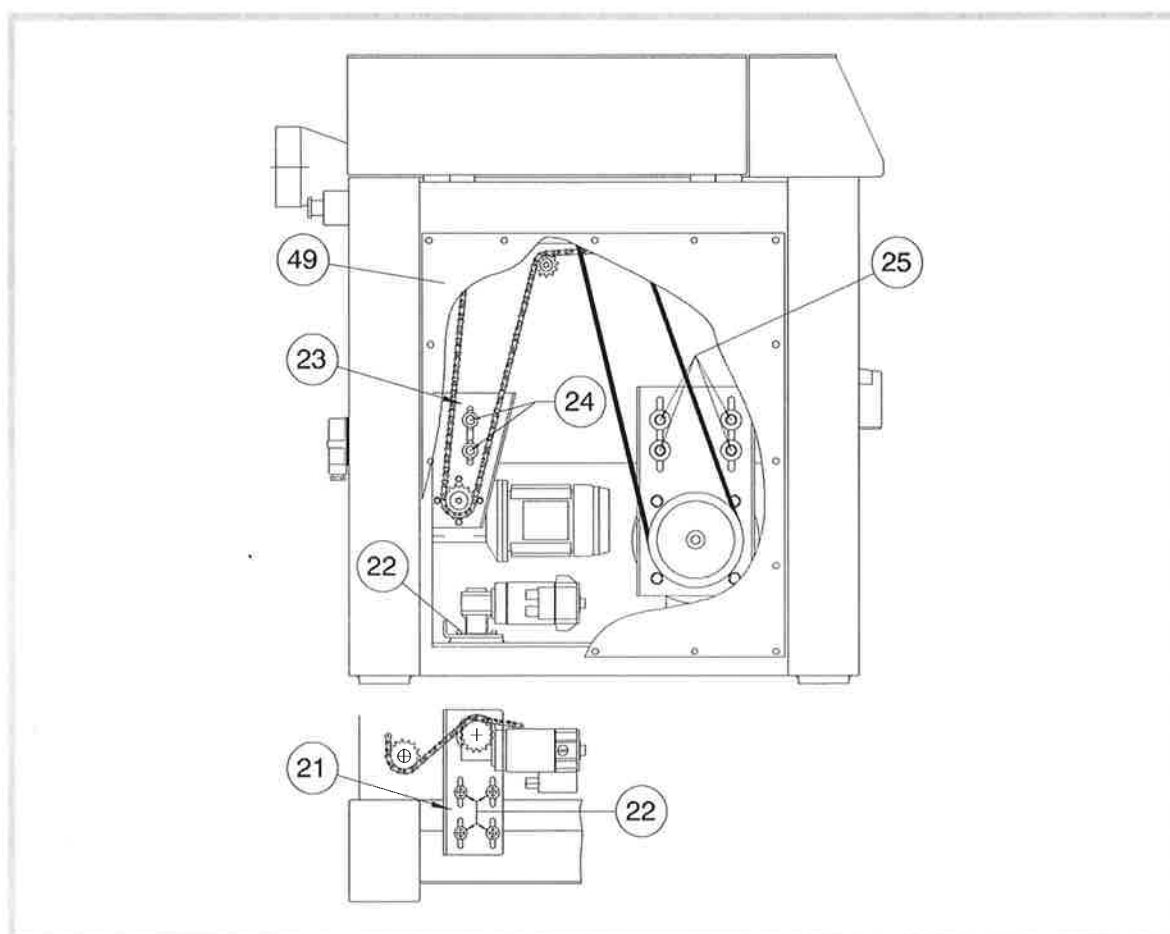

Fig. 22: Belt tensioning
- To reach the belts remove the cover (49) (Fig. 22).
- To tension the spindle driving belts loosen the screws (25) and apply a force to the motor to tension the belts; the tensioning is correct if, applying in the middle of the belt free section a load of 15 ÷ 22 N there is a movement of about 11 mm.
To reach the belts remove the cover (49) (Fig. 22).